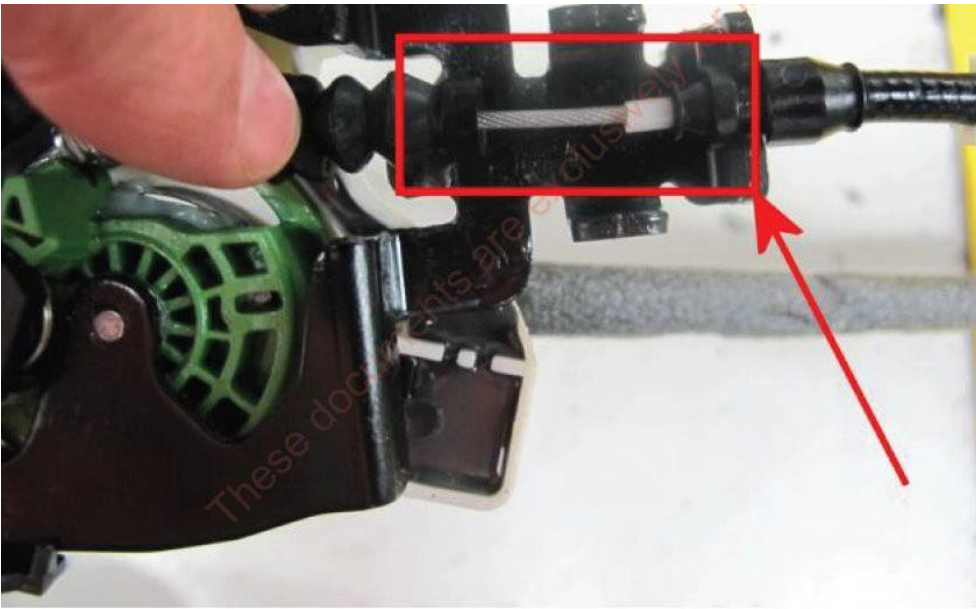

Figure 2
3) Referring to Figure 2 - Remove the rubber boot – Apply Dow corning Molycote 33 extreme – Lowtemperature grease to the inner cable
- Refit the rubber boot shown in Figure 2